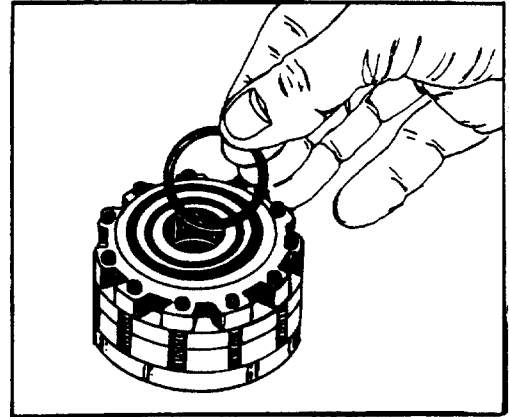

FIGURE 22.
remove commutator seal 26. Remove and discard the commutator seal (19) from the commutator cover (20). See figure 22.